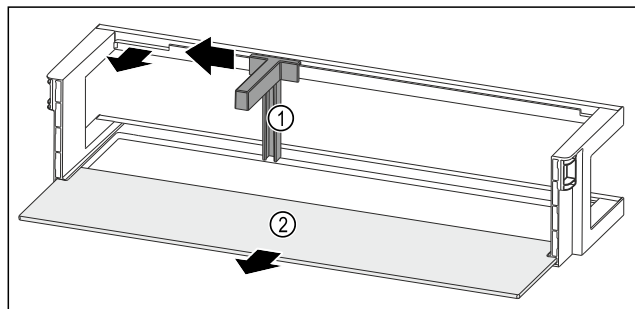

Fig. 229 Door rack with bottle holder and shelf
- ▶ Slide the bottle holder Fig. 229 (1) to the side as far as the recess.
- ▶ Remove the bottle holder Fig. 229 (1).
- ▶ Remove the shelf Fig. 229 (2).